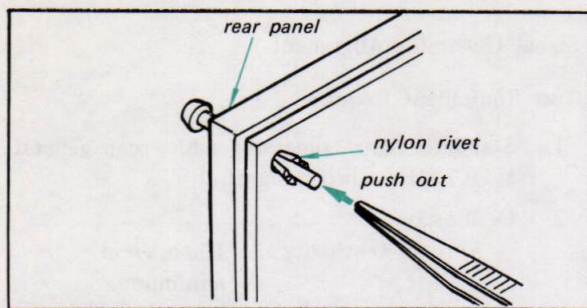

Fig. 2-20. Nylon rivet removal
1. Remove the nylon rivets securing the defective component by pushing its end with a pair of tweezers as shown in Fig. 2-20.